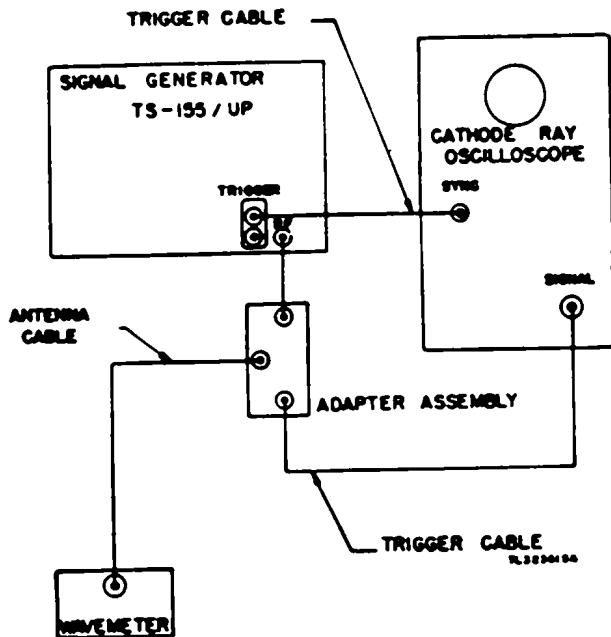

Figure 35. Adapter assembly connection, block diagram
(3) If an oscilloscope is used as an indicator, connect Cord CX-145/MPM (trigger cable) between a TRIGGER jack of the signal generator and the synchronizing input terminal of the oscilloscope (fig. 35).
(4) The use of adapter assembly is covered in paragraph 44.1.
- (4) Turn METER ZERO. SET control fully clockwise.
- (5) Turn R. F. TUNING control to the setting for which frequency is to be measured.
- (6) Turn R. F. ATTENUATOR-control clockwise to red reference mark.
- (7) Set INPUT TRIGGER switch to +.
(8) Set PULSE DELAY controls to minimum delay (fully counterclockwise). Set fine PULSE DELAY (small knob) to 3.
(9) Set PULSE WIDTH control to maximum (fully clockwise).
(10) Turn POWER switch to ON and R. F. OSC switch off. Wait 3 minutes for the signal generator to warm up.
(11) Turn METER ZERO SET control until power monitor meter reads zero.
(12) Turn R. F. OSC switch to ON. With R. F. OSC OUTPUT control, set power monitor meter to read 200.
(13) Turn selector switch to INT TRIG.
c. Connect Cord CG-71/MPM (trigger cable) between Crystal Adapter UG-119/UP and the signal input terminals of the test oscilloscope (fig. 35).
e. Connect Cord CG-70/MPM (antenna cable) to the tee adapter jack at right angles to the two jacks in line (fig. 35). Connect the free end of the cable to the input of the wavemeter, echo box, or other frequency-measuring device.